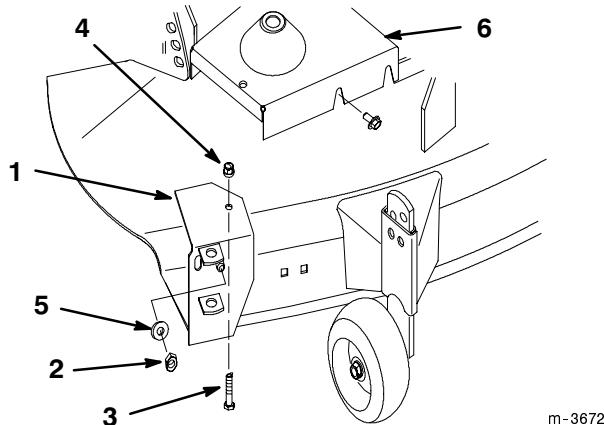

Figure 30
1. Remove the pivot support and pivot bracket from the mower (Fig. 30).
- Install the previously removed hardware in the open hole of the mower for safety (Fig. 30).
- Install the mower belt cover using existing hardware (Fig. 30).